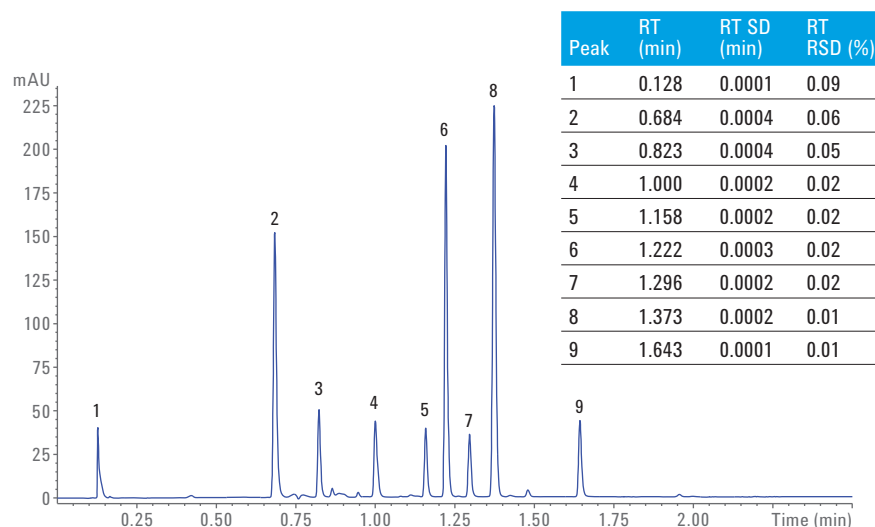

Figure 1. Fast UHPLC analysis on an Agilent 1290 Infinity II LC; RT precision determined from eight consecutive runs.
The 1290 Infinity II Method Development Solution enables fast and automated scouting of stationary and mobile phases under ultrahigh performance LC conditions, as described in a previous Technical Overview². Figure 1 shows the chromatogram resulting from the chosen optimal ultrahigh performance LC conditions found after evaluation of the scouting campaign, and the retention time (RT) precision determined from eight consecutive runs. Excellent RT precision was obtained in the fast LC analysis on the 1290 Infinity II LC.